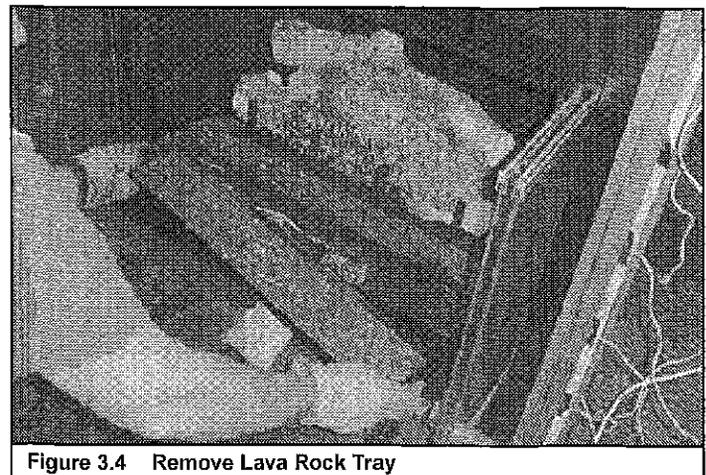

Figure 3.4 Remove Lava Rock Tray
- Grasp the tabs (one on each end) of the lava rock tray, lift up and then pull the lava rock tray toward you for removal. See Figure 3.4.